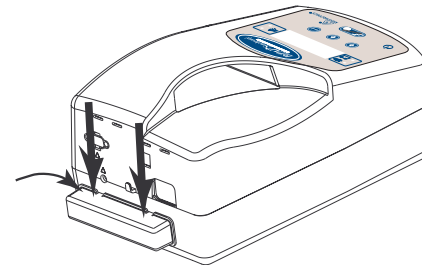

Figure 4-2 Filter Cover Installed
- STEP 4** As shown in Figure 4-2, swing the top of the cover into place and press down on it to engage the cover catches in the air inlet opening.